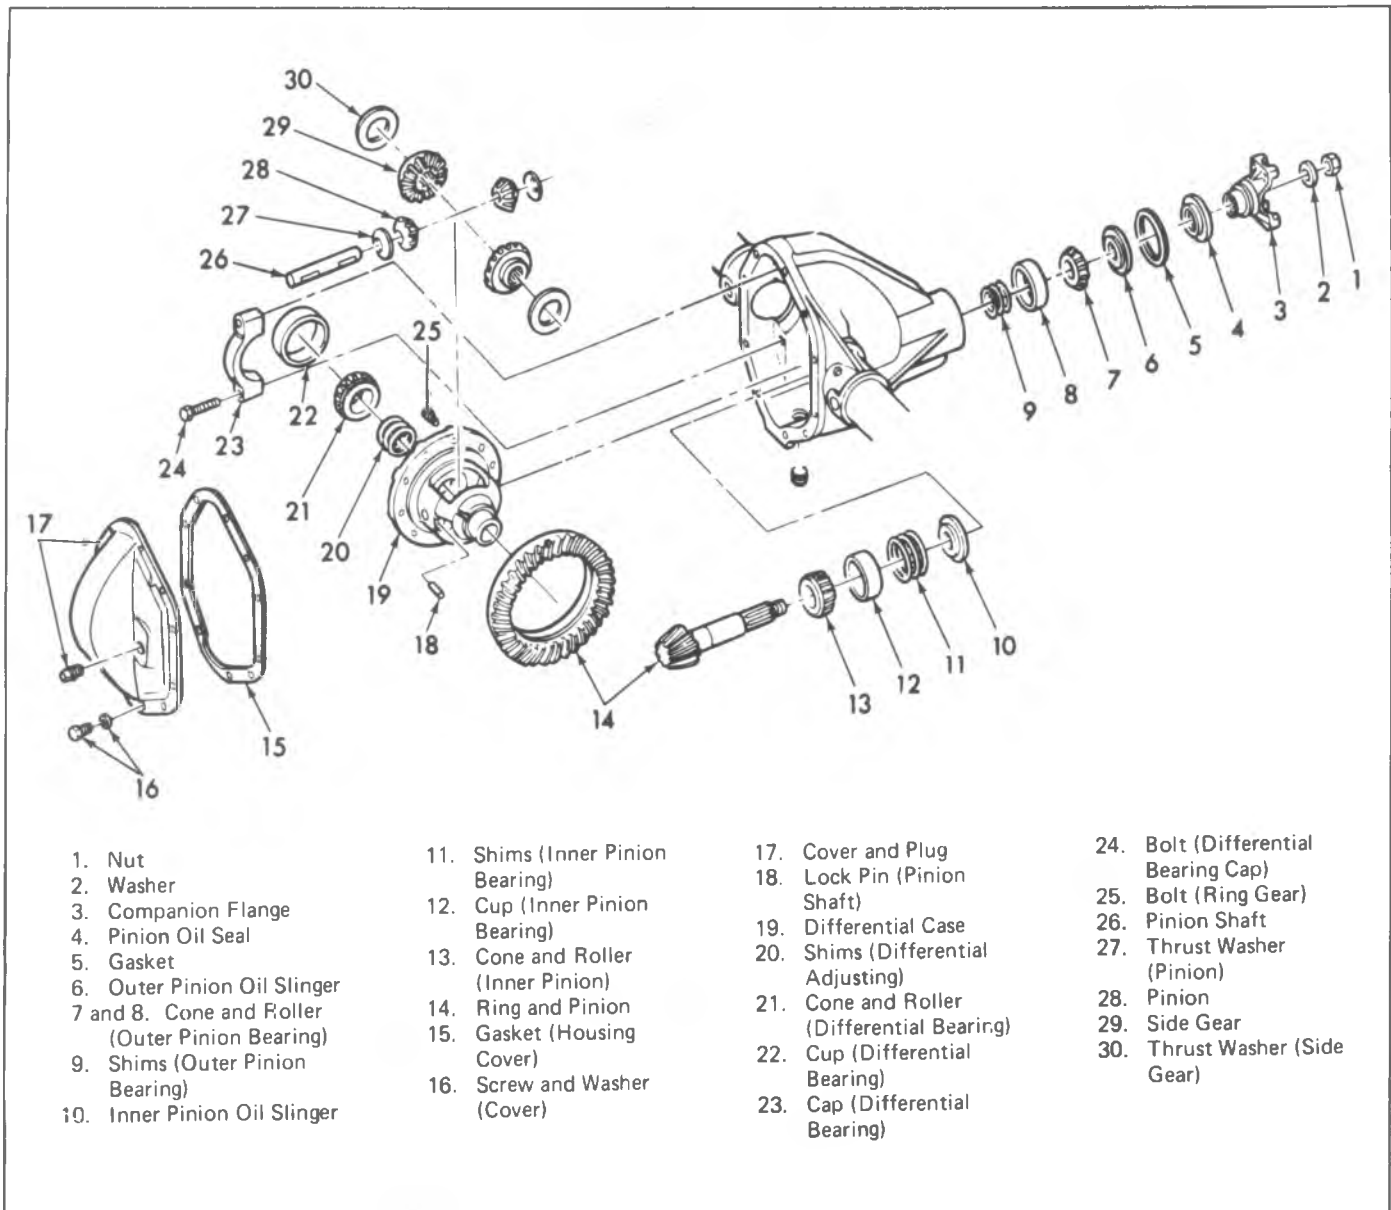

Fig. 4B4-1--Dana Differential With 9-3/4" Ring Gear - Exploded View
3. Remove differential bearing cone and roller using Puller J-22888, with Plug J-8107-3, as in figure 4B4-3. Tag cone and rollers for assembly.